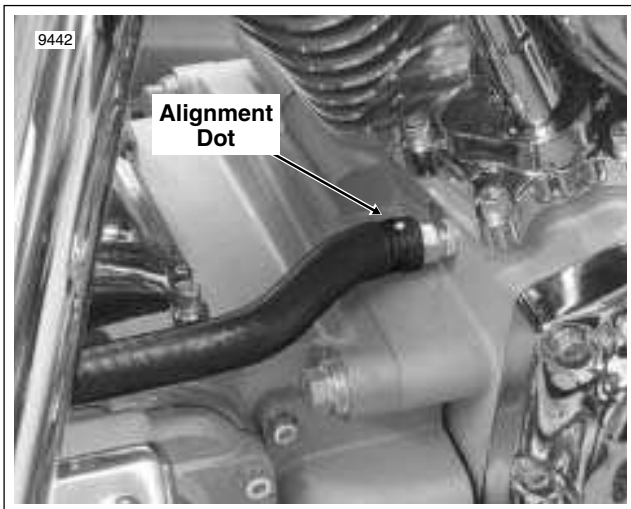

Figure 3-18. Install Breather Hose
*If installing **new** breather hose or if hose was completely removed, be sure that end with white alignment dot is connected to crankcase fitting and that dot is topside after installation of hose. See Figure 3-18. Improper orientation can result in chaffing of the transmission top cover.*